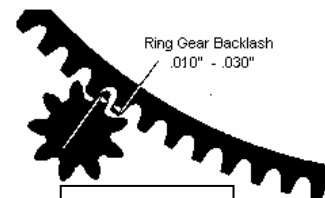

Figure 3
6. Check ring gear clearance and backlash (figures 3 and 4). Add shims and/or spacers to starter if necessary to obtain proper clearance.
**Checking Backlash** To check the backlash, simply pull pinion as to engage. You should have .010" to .030" clearance between ring gear and pinion gear. (See figure 3)